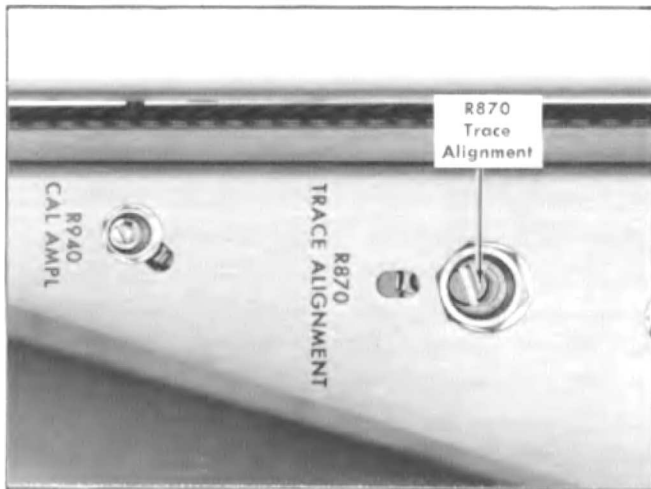

Fig. 6-17. Location of Trace Alignment Adjustment (Calibrator and High Voltage chassis).
- Adjust—R870, Trace alignment (Fig. 6-17) so the trace is parallel with the center horizontal graticule line.
16. Adjust Astigmatism (R867) ①